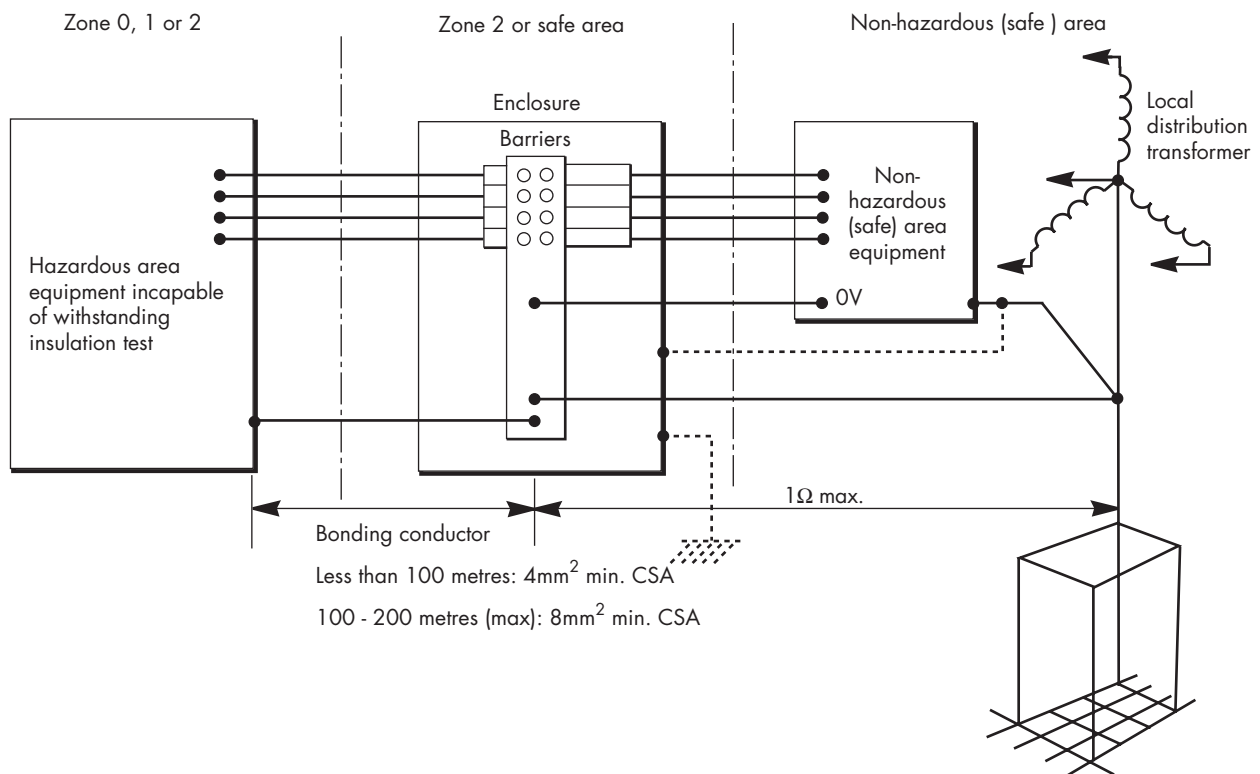

Figure 27: Bonding practice where hazardous area equipment cannot meet required standards of insulation from earth
**Note:** some hazardous-area instrumentation (e.g. pH and conductivity) is, by its nature, unable to withstand the 500V insulation test method mentioned above. Where this is the case, the system may alternatively comply with the installation requirements specified in IS sketch 121 (figure 27) and BS 5345, Part 4, 1977, Section 3, Code 16.